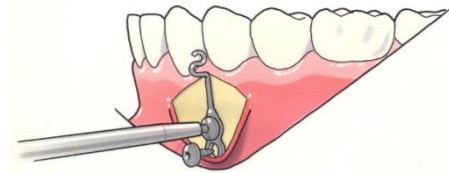

Fig. 3
The anchor plate may be pre-bent carefully to obtain an optimal contact between the plate and the cortical bone. The bending is limited between the upper and lower hole. Insert the first selfdrilling screw (Surgi-Tec recommends 5 mm length, \varnothing 2.0 mm, ref. 70-505S) into the upper hole of the anchor but do not completely tighten to allow some rotation of the anchor. The second selfdrilling screw is inserted (Surgi-Tec recommends 5 or 7 mm length, \varnothing 2.0 mm, ref. 70-505S or 70-507S) (Fig. 3)